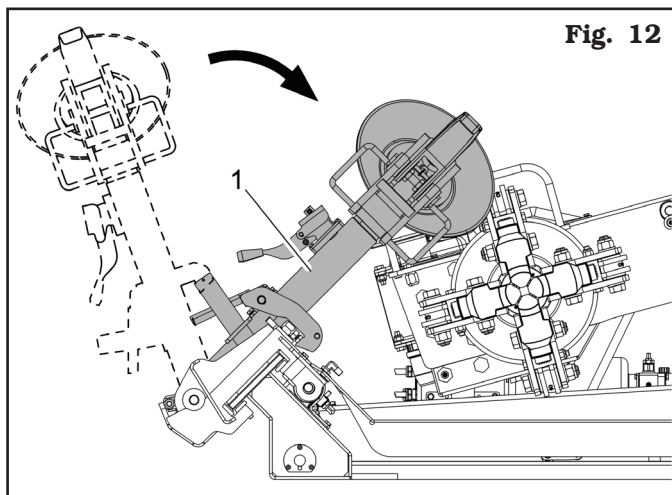
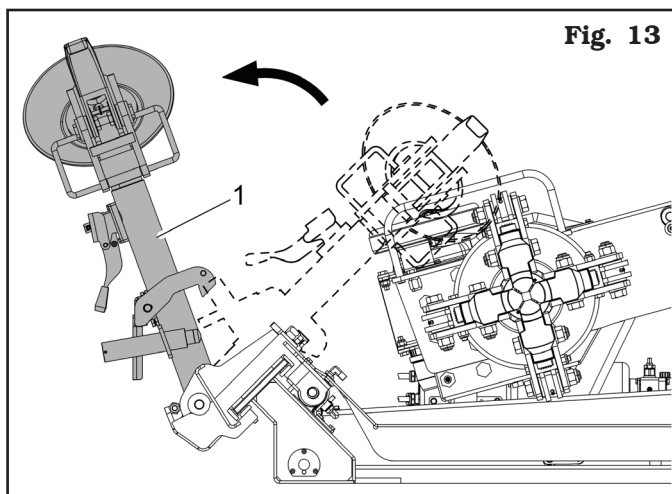

Fig. 12
Fig. 13
- Move the tool holder arm to “off-work” position (**Fig. 13 ref. 1**);
In "working" position (**Fig. 12 ref. 1**) the tool holder arm is lowered towards the mandrel and from this position it executes the various tyre bead breaking, demounting and mounting operations.
In "out of work" position (**Fig. 13 ref. 1**): the tool holder arm is in vertical position and has to be brought in this position every time it is not in use and in order to be shifted from one tyre side to another, during the different working phases.
- D.** Lower tool holder arm into work position (hooked safety jack) (Fig. 12).
- G.** Once external beading has been carried out, unhook and lift the tool holder arm placing it in "off-work" position (Fig. 13 ref. 1); use the handle control to position the tool holder arm on the inner side of the wheel, then place it in "work position" (Fig. 12 ref. 1) and secure it with the special safety jack.
- Once the external bead has been removed, move tool holder arm away from the wheel, unhook it and lift it bringing it in "off-work" position (Fig. 13 ref. 1); use the handle control to position the tool holder arm on the inner side of the wheel then place it in work position again (Fig. 12 ref. 1) and secure with the safety hook provided.